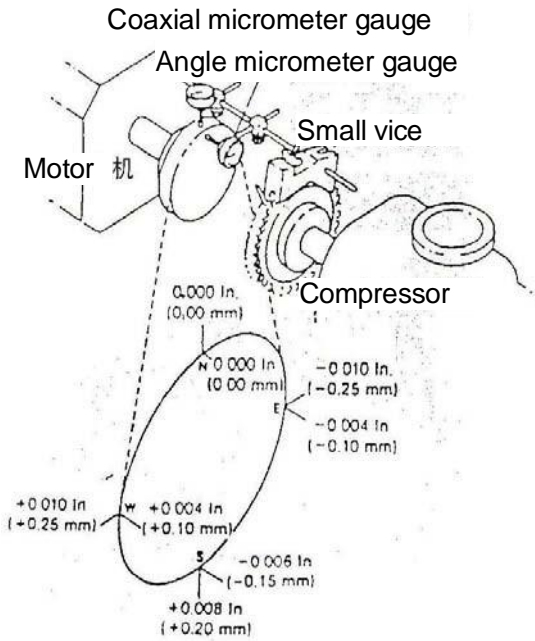

Fig. 5
- c) Fine calibration: As shown in Fig. 5, use a small vice or loop chain to fix two micrometer gauges on a half-coupling, or use the magnetic micrometer gauge base. Move a probe to the slight upper position on the end face of the other half-coupling, to measure the angular deviation; move the other probe to the center of external circumference of the coupling, to measure the coaxiality deviation. It needs to ensure that the measuring surface is clean and has no coating; adjust the micrometer gauge and press down the probe in a midway to allow it to be able to move in two directions.
- d) Reset the micrometer gauge to zero at the N point in Fig. 5.
- f) At first adjust the parallel and then adjust the coaxiality (Please note: for the positive and negative values of the number of micrometer gauge, the symbols shall be given in the calculation). Reset the micrometer gauge to zero (0.000mm) at the N point in Fig. 5. Turn the compressor shaft with the motor shaft, and record the readings of two micrometer gauges every 90 degrees (1/4 turn). A group of readings are shown in Fig. 5. As two shafts turn together, the position of micrometer gauge relative to the shafts is not changed and then it will eliminate the deviation caused due to the irregular rim or end face. The mirror can be used for easily getting the readings. Generally, a group of readings can't account for a lot. Several groups are necessary. Confirm whether the readings are consistent.
- g) In the example shown in Fig. 5, the deviation from the micrometer gauge for angular measurement is 0.000mm at N point and becomes -0.152mm at S point; it indicates that the tail end of motor is higher (relative to the compressor). The total angular deviation (T.I.R) is 0.152mm. The calculation of the distance required for the motor adjustment is described as follows: